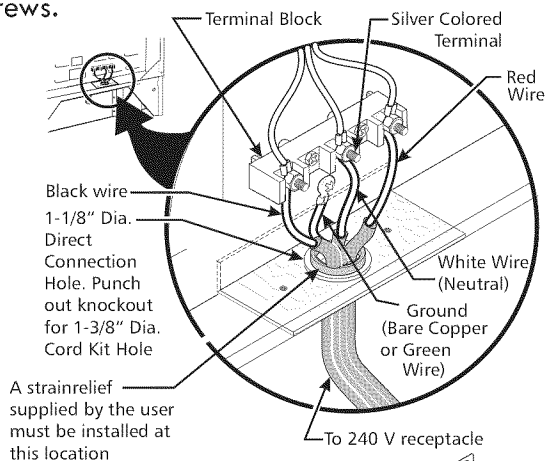

**Figure 3**
If local codes permit connection of the frame grounding conductor to the neutral wire of the copper power supply cord (see Fig. 3):
2. Using the nuts supplied in the literature package, connect the neutral of copper power supply cord to the center silver-colored terminal of the terminal block, and connect the other wires to the outer terminals. Match wires and terminals by color (red wires connected to the right terminal, black wires connected to the left terminal) (see Fig. 3).